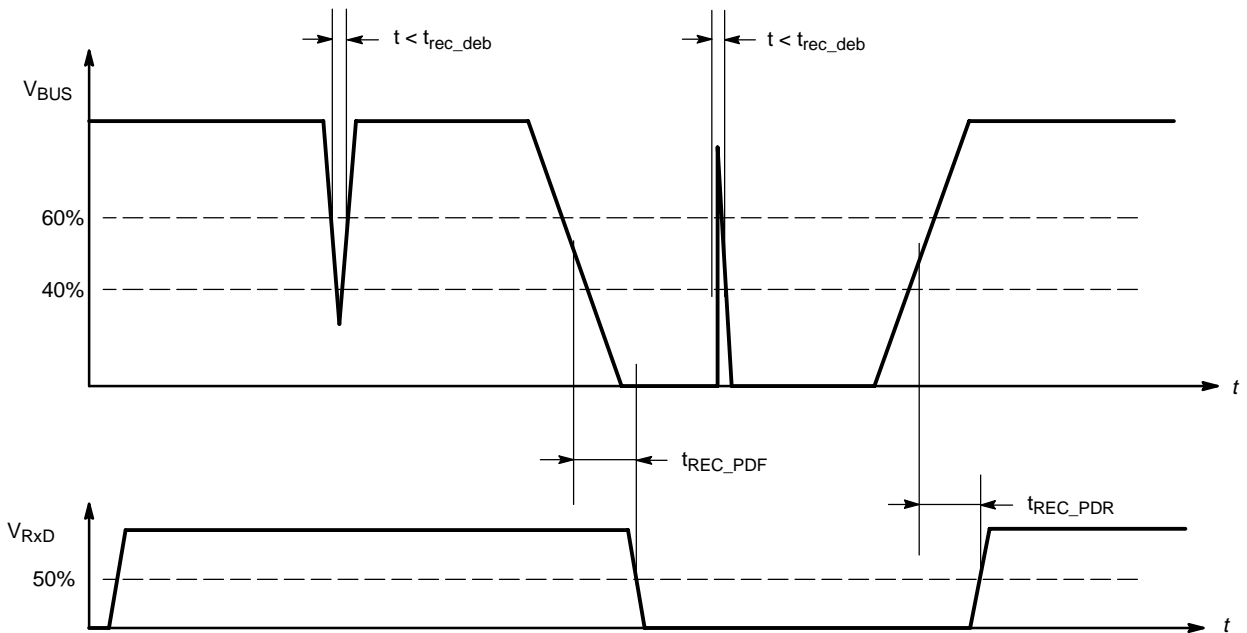
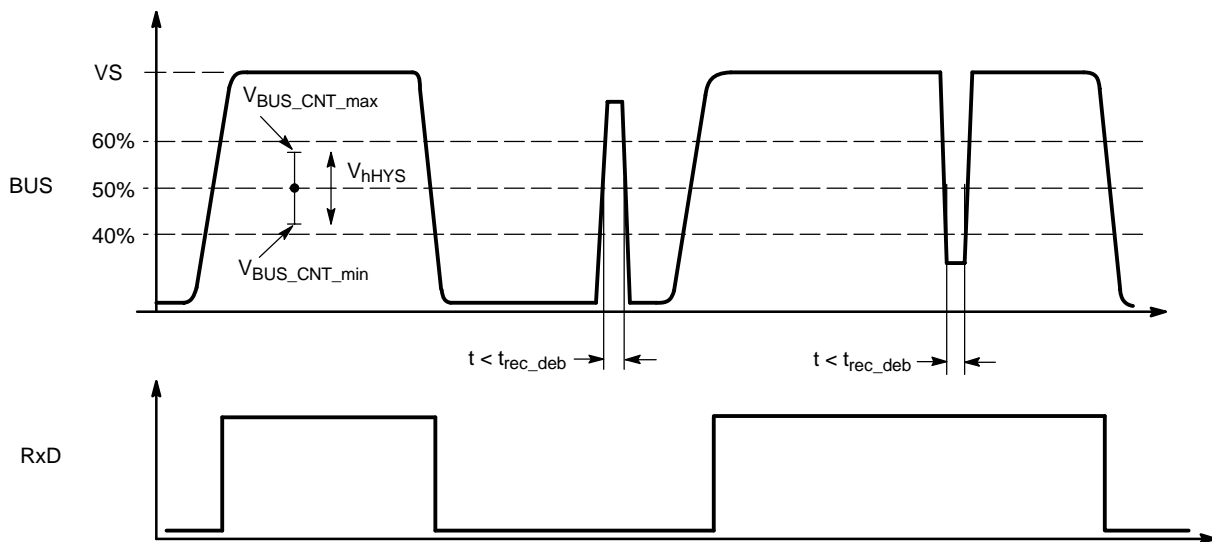

Figure 3. Receiver Debouncing
Figure 6. Receive Impulse Diagram
9. See Figure 3 – Receiver Debouncing.
The signal on the BUS pin will be transferred continuously to the RxD pin. Short spikes on the bus signal are filtered with internal circuitry (Figure 3 and Figure 6).